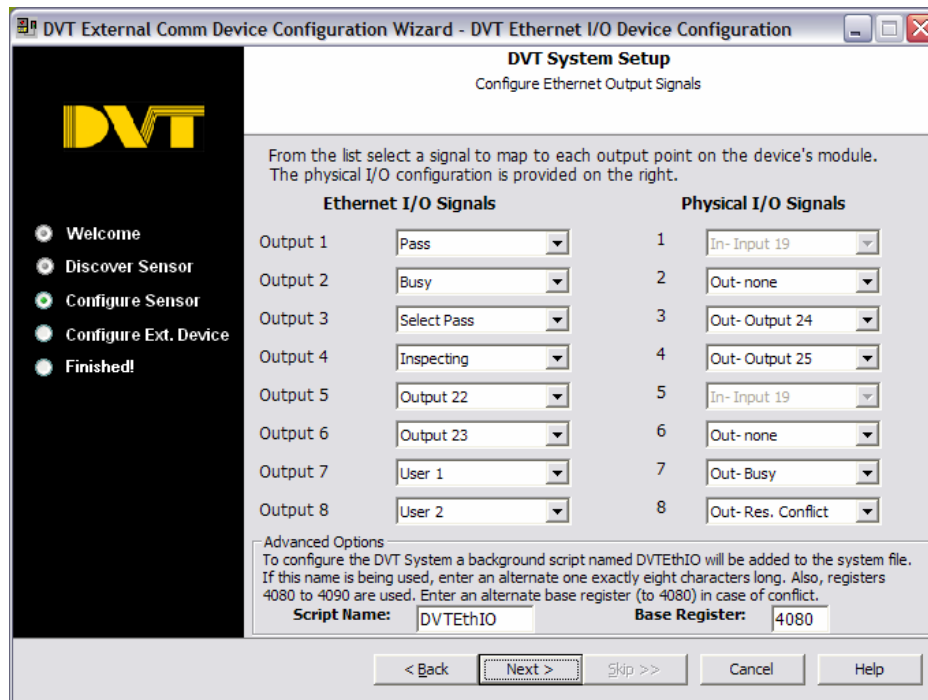

Fig. 7
- The next screen is similar to the previous one but it is the Outputs assignment screen. See Fig.7